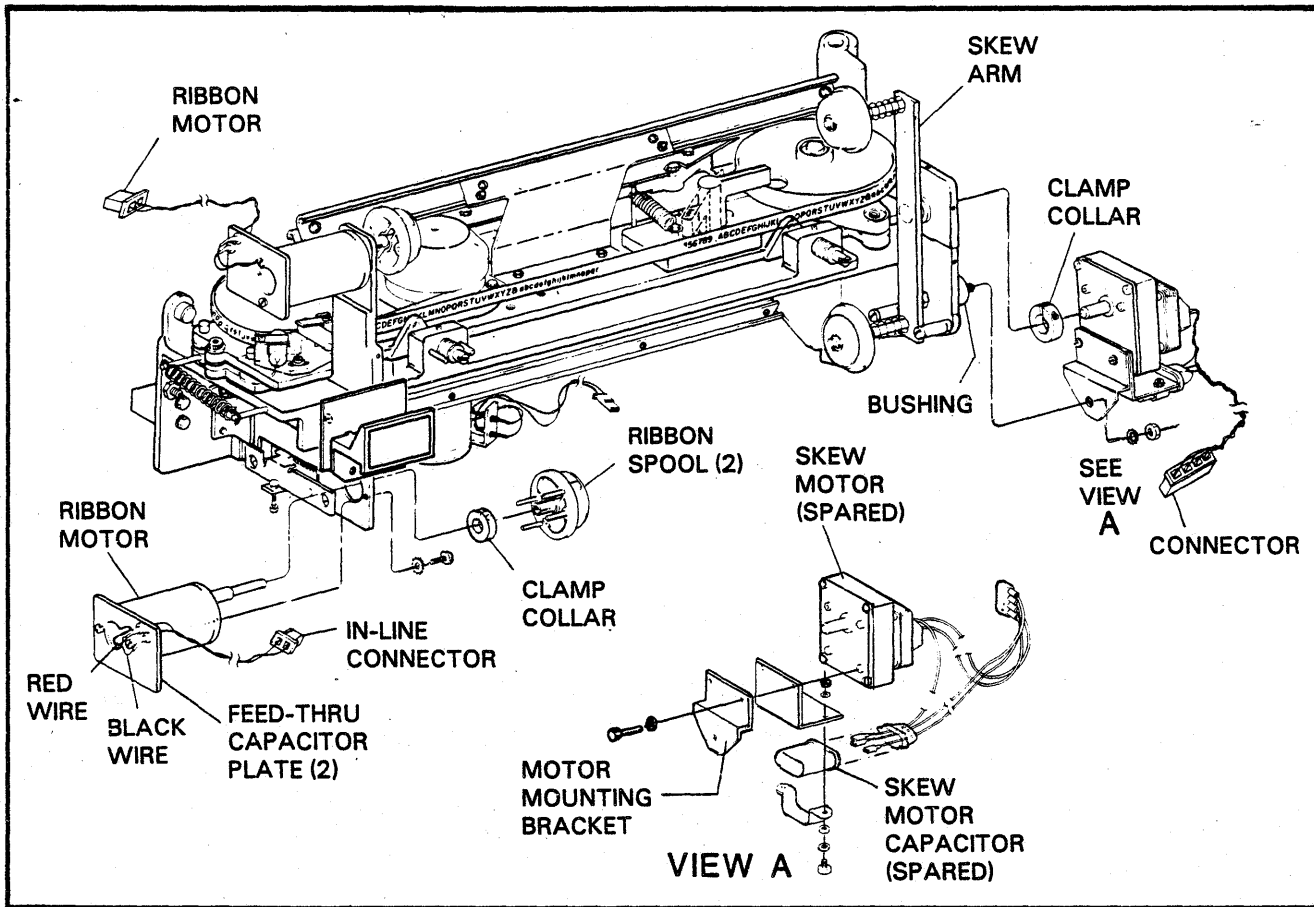

FIGURE 6-11. RIBBON MOTOR AND SKEW ARM MOTOR REPLACEMENT
3. Cut ty-rap and unplug in-line connector which has yellow and black wires soldered to feed-thru capacitor mounting plate. (Refer to Figure 6-11).